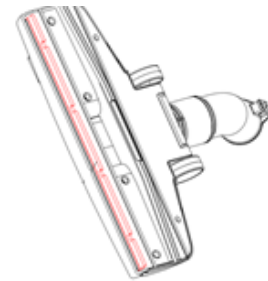

Fig. 13
4. As in fig.13, tread on the pedal of the brush tool again to put the bristles in, and you can clean the carpet.